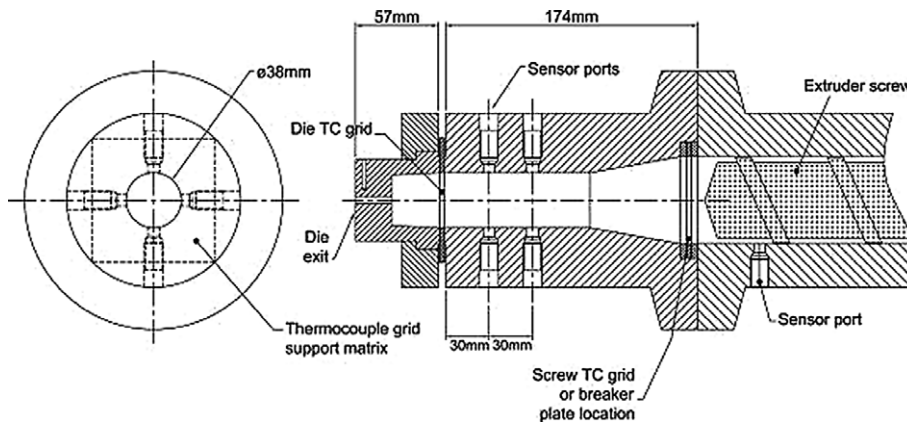

Figure 2.25 Experimental setup for melt temperature study
When the screw discharges the melt, this melt will be non-uniform in temperature. A number of studies have analyzed the variation of melt temperatures in extruders. One such study was made by E. Brown and A. Kelly at Bradford University in England. In this work, a fast response thermocouple (TC) mesh was used to measure melt temperature variation using three different extruder screws. The TC mesh was located in the breaker plate recess of the extruder barrel, see Figure 2.25.